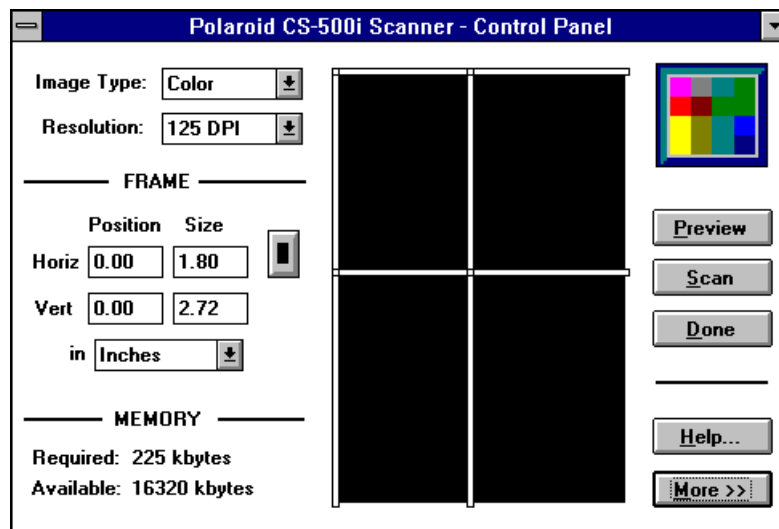

Figure 4-32. Scanner Control Panel
2. Start the ID-4000 application, create a new record, and choose the Capture button to display the scanner control panel (Figure 4-32).